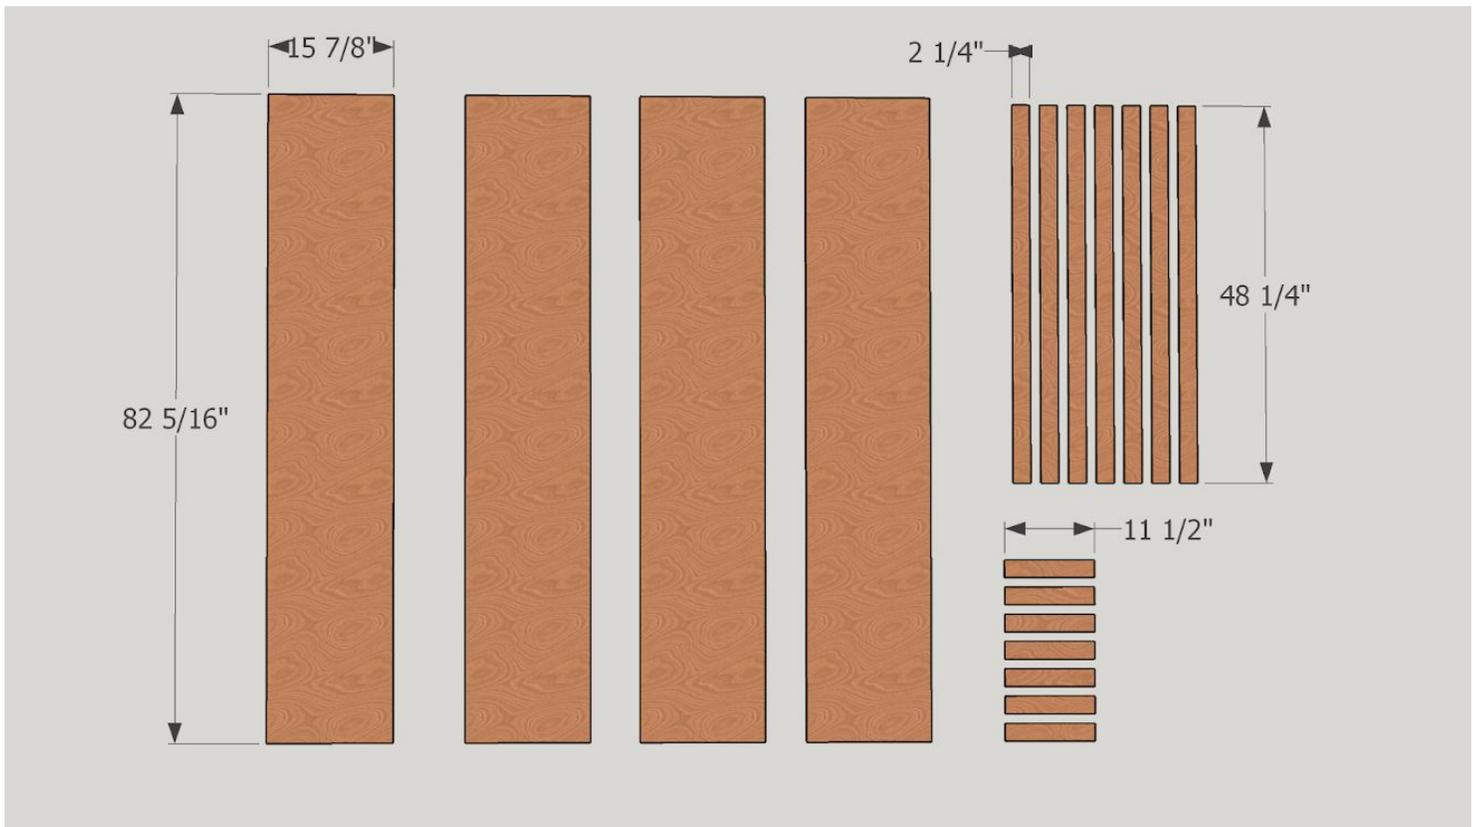

Figure 1
*(Note Figure 1 shows the face panels as well as the trim pieces)*